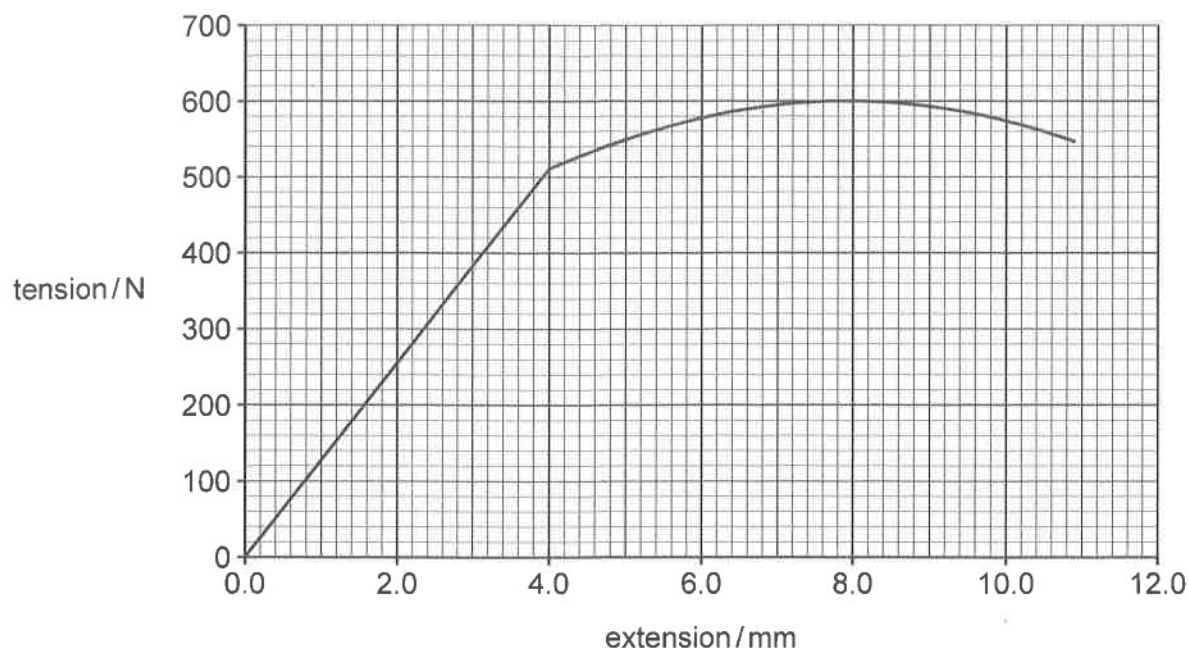

Fig. 2.1
- 2 The tension in a 1.0 m wire varies with extension as shown in Fig. 2.1.